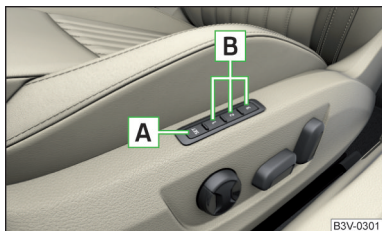

Fig. 88
Among the memory buttons on the driver's seat, a setting for the driver's seat and exterior mirror position can be saved » Fig. 88.
- › Press the SET » Fig. 88 and then, within 10 seconds, press the desired memory button . Storing is confirmed by an acoustic signal.
- › Turn on the ignition and press the desired memory button » Fig. 88.